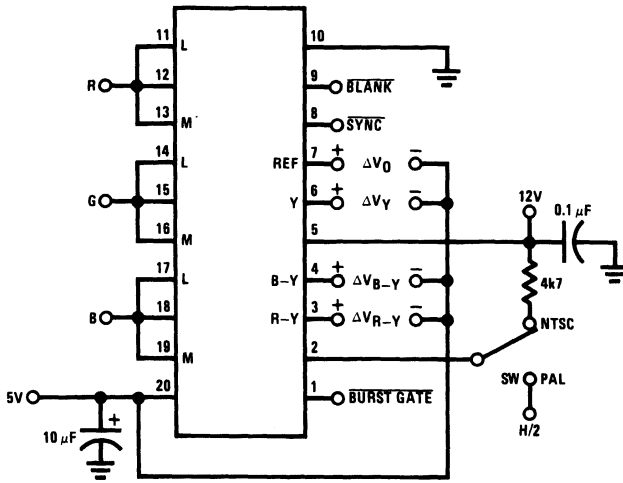

FIGURE 2a. 6-Color Input Connection
**Note 2:** Unless otherwise noted,  $\overline{\text{BLANK}}, \overline{\text{SYNC}}, \overline{\text{BURST GATE}} = 2\text{V}$  and SW is in NTSC position. All outputs are referenced to the +5V supply as shown in Figure 2a.
All inputs are low-power TTL compatible. Because of the very low typical input currents, the color inputs may be paralleled in various combinations. For simple color requirements, the Figure 2a input connection may be used to produce the 6 primary and complementary colors listed in Table I, along with black and white. To add complex colors such as those at the bottom of Table I, all 9 input bits may be required separately. When choosing input codes for other colors, always check the new color against both light and dark backgrounds.